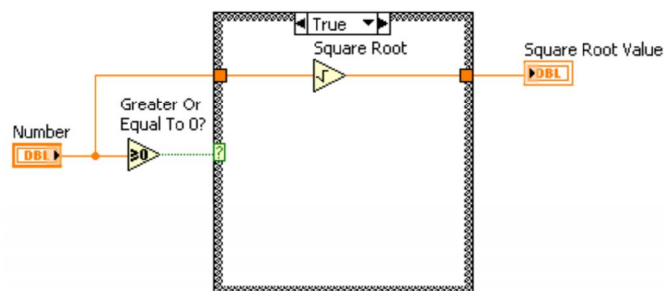

Figure 3
2. Select the True case of the Case structure. Place the Square Root function, located on the Functions>>Arithmetic & Comparison>>Express Numeric palette, on the block diagram. This function returns the square root of Number. Wire the function as shown in Figure 3.